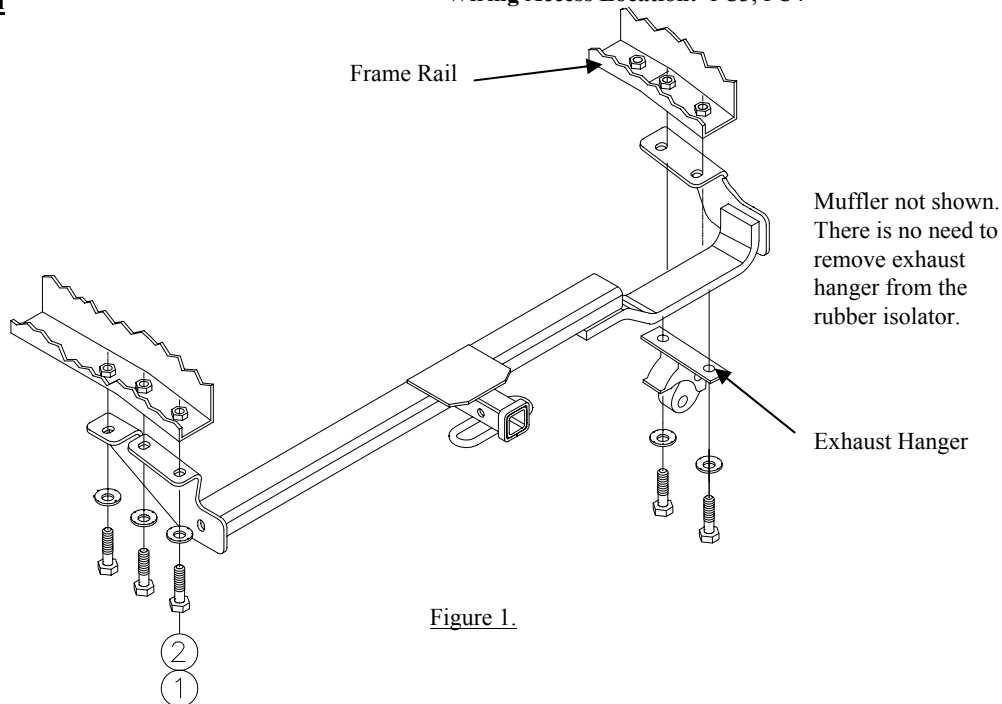

Figure 1.
3. Raise hitch into position and install (5) 10mm bolts and conical toothed washers as shown in Figure 1. Install the bolts and conical toothed washers through the exhaust hanger bracket and hitch bracket on passenger's side frame rail as shown in Figure 1.